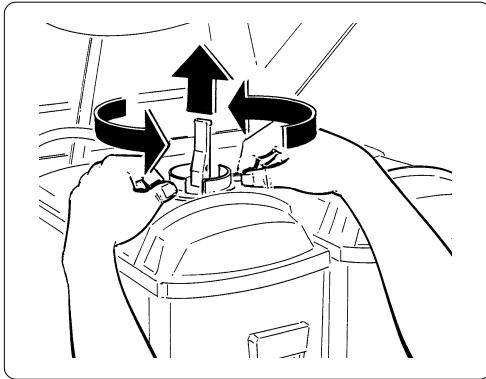

Fig. 7
- Remove the cap (I) by rotating it anticlockwise and pulling it upwards, as shown in figure 7.